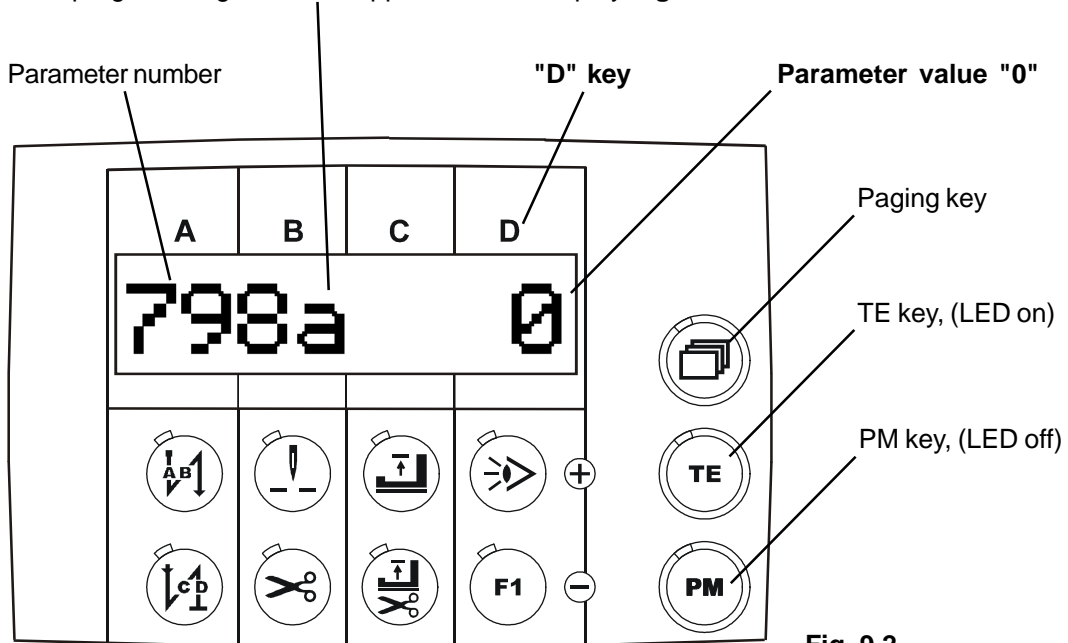

Fig. 9.2
- Use **keys A+ / A-** and **B+ / B-** to select **parameter 798**, **Fig. 9.2**
"a" = programming level, "a", appears on the display **Fig. 9.2**